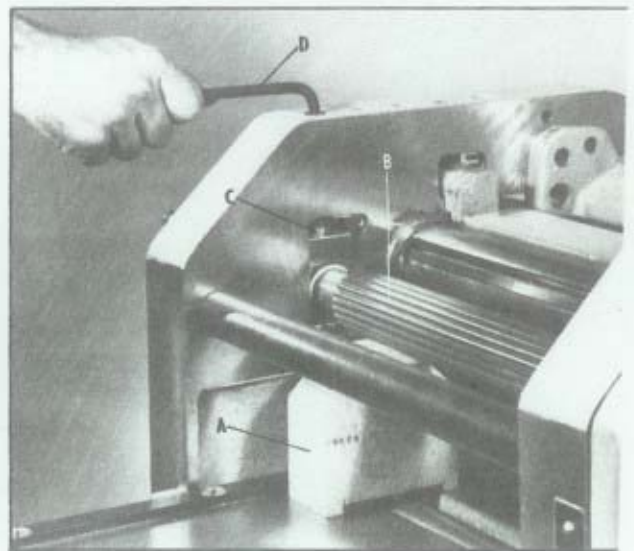

Fig. 16.
3. Place the gage block (A) Fig. 16, on the table under infeed roll (B) as shown. Check with the gage block on both the right and left side of the infeed roll.
4. If the roll must be raised or lowered, loosen the jam nut (C) Fig. 16, on the end of the infeed roll that is to be adjusted and with the $5/16''$ hex. wrench (D) rotate screw to raise or lower to desired setting and lock in position by tightening jam nut (C). NOTE: It might be necessary to remove the side panels of the planer for this adjustment.